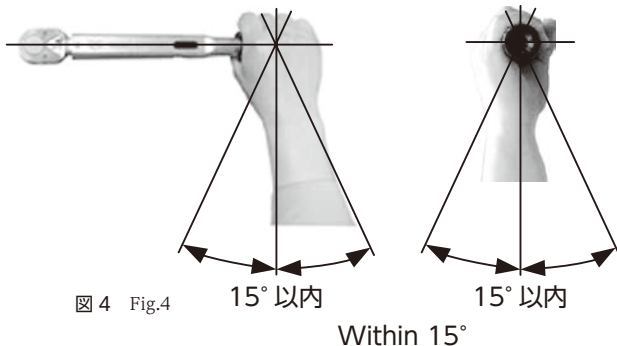

図4 Fig.4
上下左右とも±15以内にする。(図4)
- The loading direction must be at a right angle to the torque wrench. The tolerance is plus/minus 15 degrees of horizontal or vertical deviation. See Fig. 4.